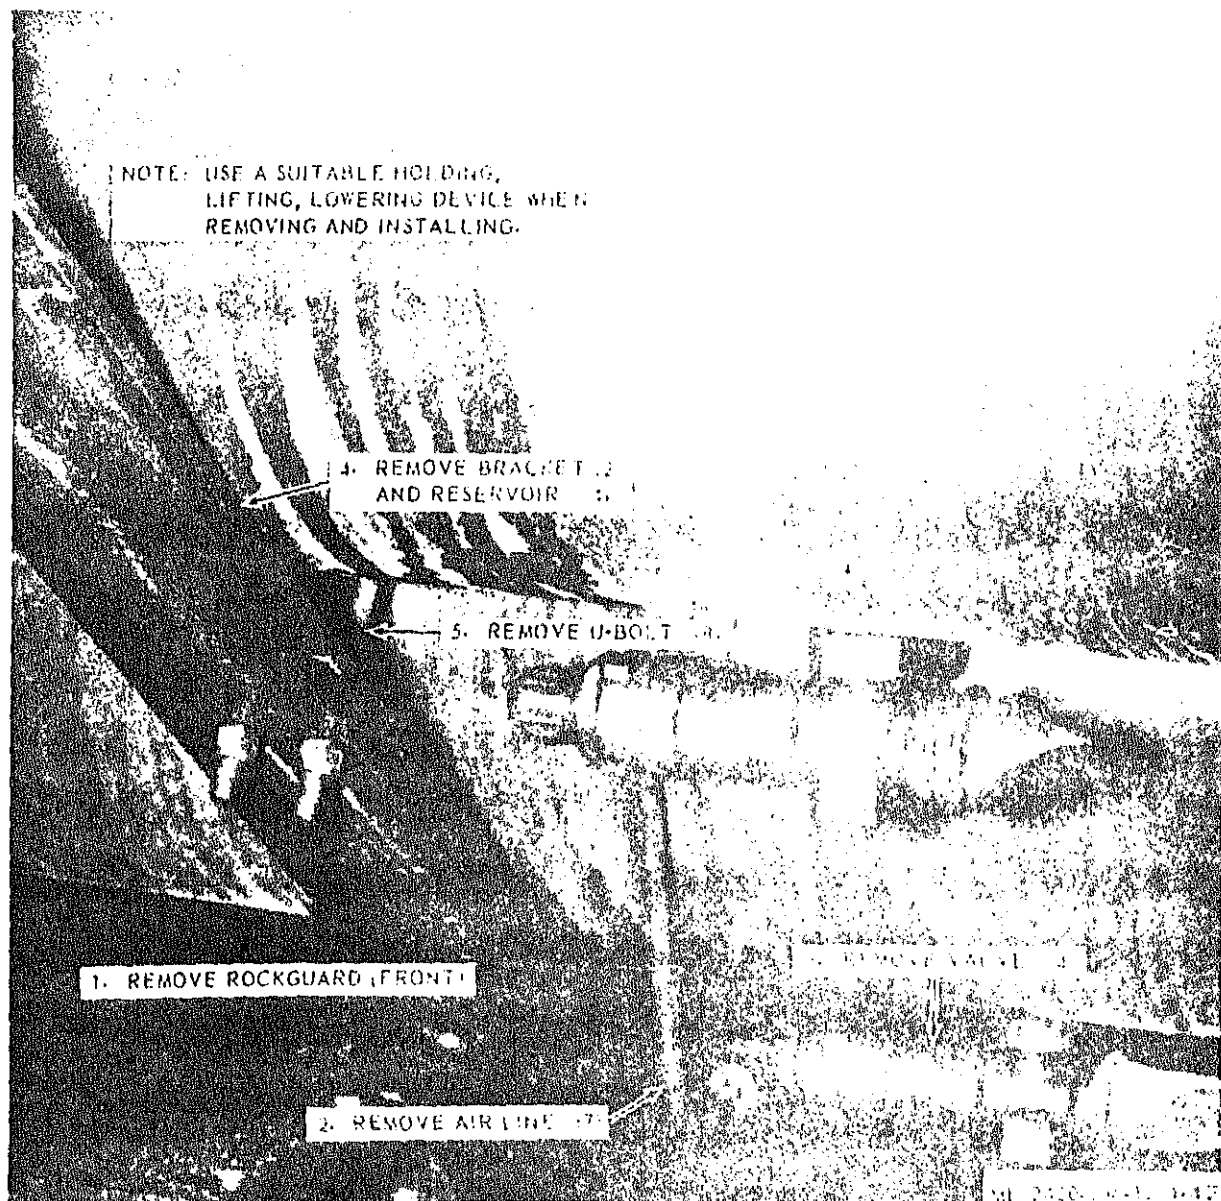

Figure 4-42. Air reservoirs, removal and installation.
(1) Clean all parts and dry thoroughly. Flush
c. Installation. Install air reservoirs as illustrated in figure 4-42. Check for air leaks.